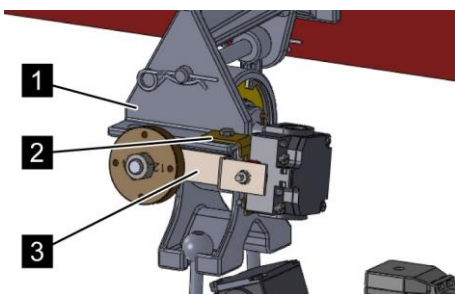

Fig. 77: Mounting the leakage monitor
26. ➤ Fasten the limit switch of the leakage monitor with the provided cylinder screws, washers and nuts on the holder of the leakage monitor (Fig. 77/2).
27. ➤ Mount the holder (Fig. 77/2) with mounted limit switch with screw, washer and nut on the holder of the weighing device (Fig. 77/1).
28. ➤ Fasten the magnets with the countersunk head screw, washer, and hex nut on the second holder (Fig. 77/3).
29. ➤ Guide the second holder (Fig. 77/3) to the threaded rod and fasten it with hex nut in the horizontal position to the weighing device.